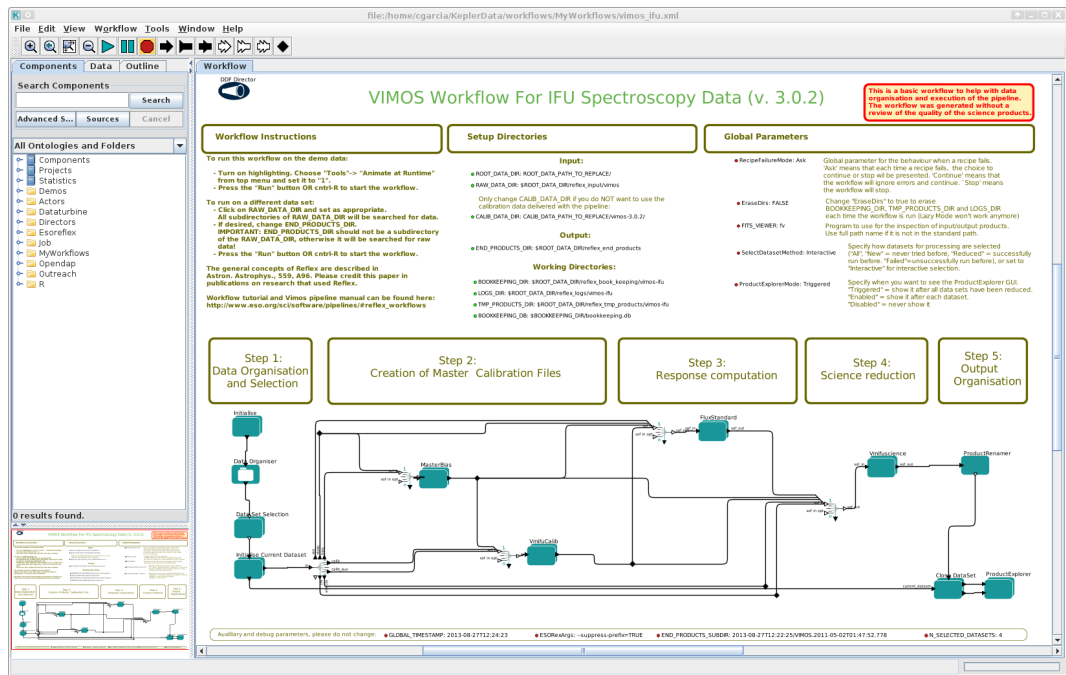

Figure 4.2: *VIMOS/IFU* workflow general layout.
2. Now open the VIMOS workflow by clicking on File -> Open File, selecting first `vimos-3.2.3` and then the file `vimos_ifu.xml` in the file browser. You will be presented with the workflow canvas shown in Figure 4.2. Note that the workflow will appear as a canvas in a new window.